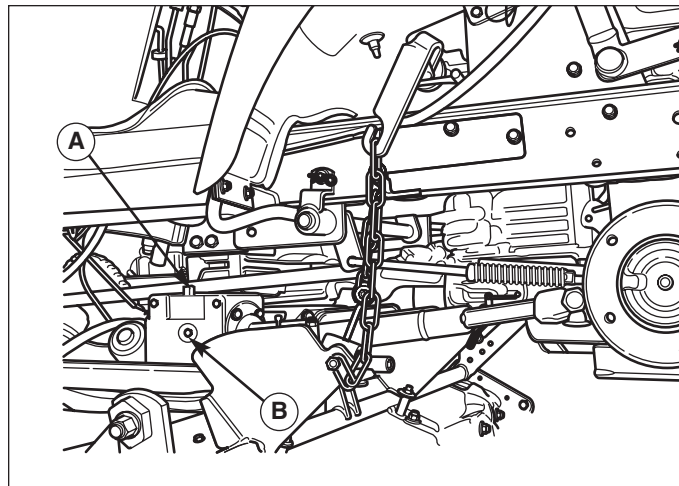

Figure 28. Gear Box Fill Plug Location
1. Remove the plugs from the top and side of the gear box (see Figure 28).